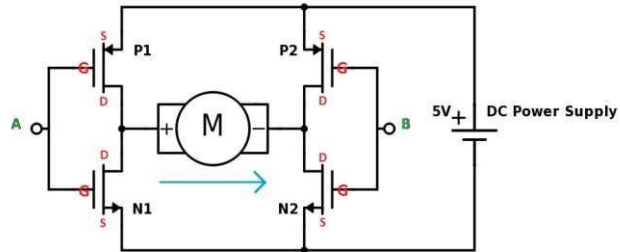

Figure 1: Experimental Setup
have a combination of both N and P type devices (hence, complementary pair). The N-type device (in this case, N channel MOSFETs) will conduct when the gate voltage is $\sim 1.5\text{V}$ (or more) higher than the source voltage. The P-type device will conduct when the gate voltage is $\sim 1.5\text{V}$ (or more) lower than the source voltage. You should note that with the circuit in Figure 1, the two top transistors (P1 & P2) are PMOS devices (arrow points into source), while the two bottom transistors (N1 & N2) are NMOS devices (arrow points out of source). The small arrows also denote which direction the current should flow in our circuit if that transistor is in the ON-state.
- Set up the circuit as shown in Figure 1. For each of the 4 transistors, make sure you connect the 3 legs properly. If you mix up matching the 3 legs to Gate/Drain/Source, you could create a short and damage the circuit components. The DC power supply should not be giving more than 100mA.